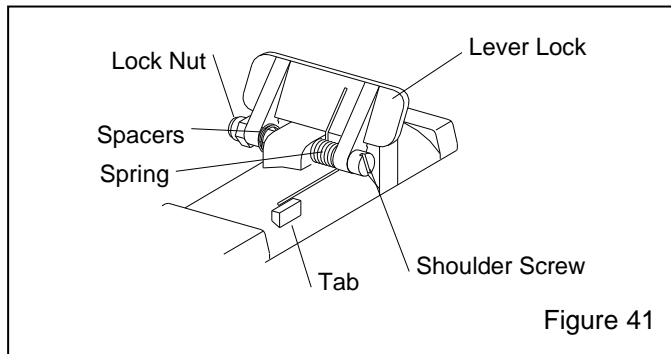

Figure 41
7.8.2 Lever lock replacement – Figure 41
7.8.2.1 Remove the lock nut from the shoulder screw. Before removing the screw, note the positions of the spacers and spring, as shown in Figure 41. The bent end of the spring is toward the inside, forcing the lever lock up. The straight end is toward the outside, facing down and against the tab.